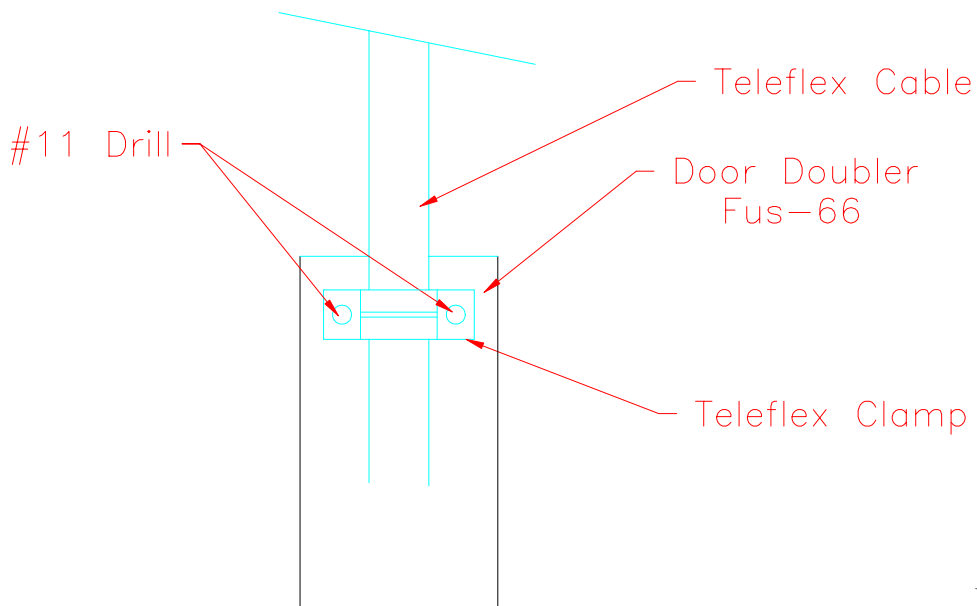

Figure 15.10.2
- 4) Position the teleflex clamp over the cable and use it as a guide to drill the two #11 holes into door doubler. Figure 15.10.2.